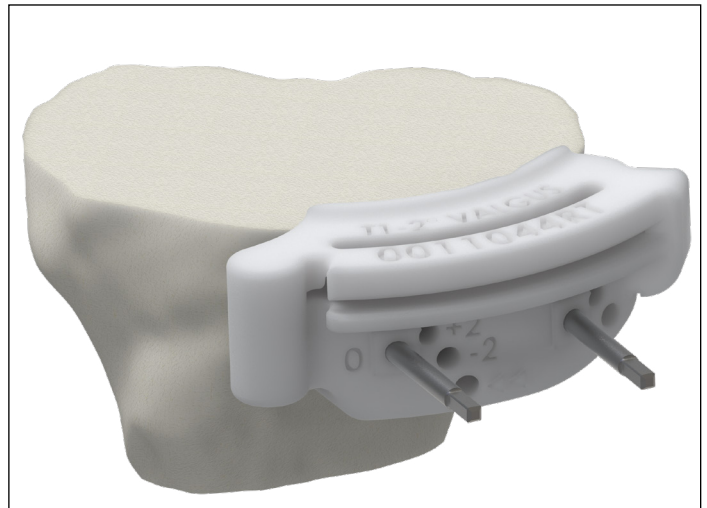

Figure 19. T1VG guide placed over pins at “0” holes
3. If the knee is tight laterally in both flexion and extension, use the 2 degree T1VG Valgus Adjustment Guide (**Figure 19**). Locate pin-holes created from the T1 guide and place pins into those same holes. Slide the T1VG guide onto the pins at both “0” pin-hole positions. This tibial valgus cut may create valgus limb alignment in extension and flexion. Additional 2mm resection depth on plane with the 2 degree valgus angle is available by placing T1VG onto pins at both “+2” pin-hole positions.